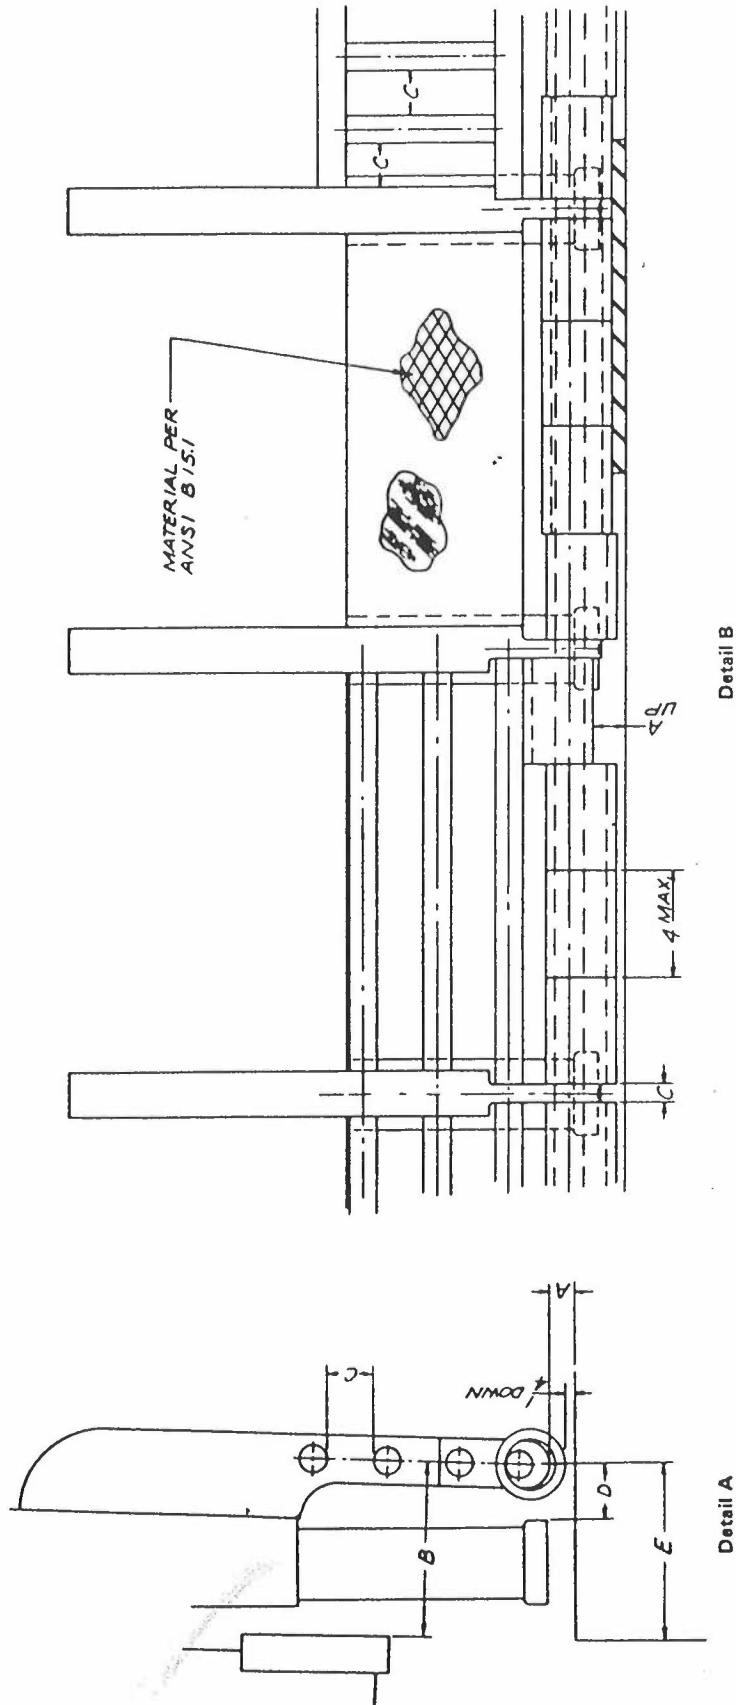

Fig. 2
**5.1.4 Point-of-Operation Awareness Barrier.** Where, in guarding the point of entry of material, it is not practical to conform with 5.1.2, the point of entry may be guarded by a point-of-operation awareness barrier similar to those defined in Fig. 2 (Details A and B) and given in Table 2.
(6) A presence-sensing point-of-operation device should be a self-checking, self-monitoring type that must inhibit further stroking if a fault occurs in the device.
\*See Fig. 2, Details A and B.